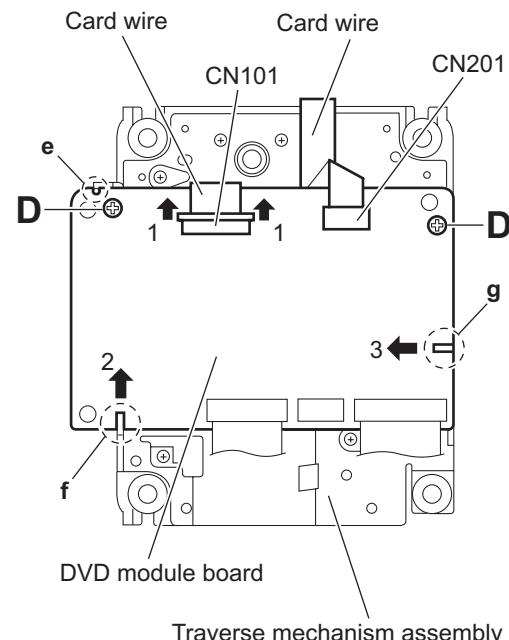

Fig.5
- (2) From the bottom side of the traverse mechanism assembly, release the lock of the connector CN101 on the DVD module board in the direction of the arrow 1 and disconnect the card wire. (See Fig.5.)
- (3) Disconnect the card wire from the connector CN201 on the DVD module board. (See Fig.5.)
- (4) Remove the two screws **D** attaching the DVD module board. (See Fig.5.)
- (5) Remove the DVD module board from the projection **e** in an upward direction and remove the engagement section **g** in the direction 3 while removing the engagement section **f** in the direction of the arrow 2. (See Fig.5.)